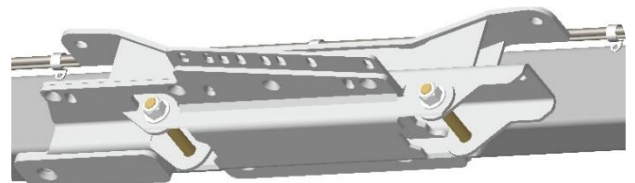

Figure 10
59. Locate the lower control arm mounting bracket, gusset plates, and hardware kit 118 (see figure 10). Align the LCA mounting holes with M14 bolts then secure the control arm gusset plates onto the control arm mounts using four 3/8 x 1 flat head screws and flange nuts per side. There is a left and right for each part, ensure the countersinks match up to the bolts for a flush finished product. Tighten 3/8 bolts then remove M14 bolts from LCA mounts.